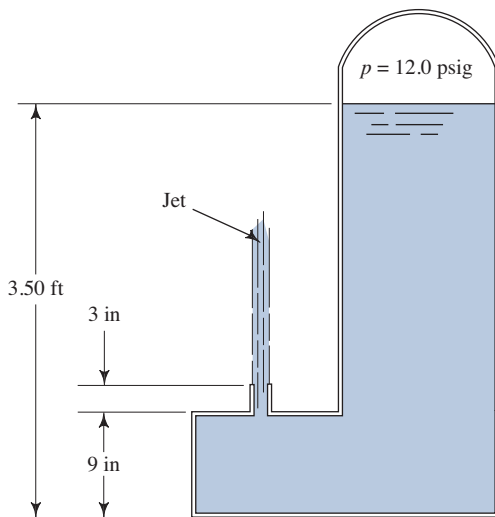

FIGURE 6.40 Problem 6.92.
- 6.92 To what height will the jet of water rise for the conditions shown in Fig. 6.40?